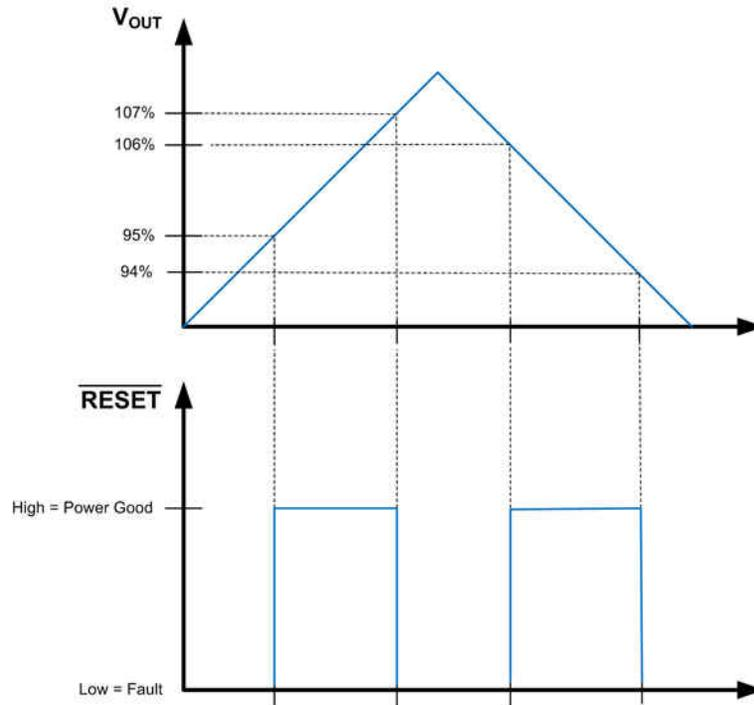
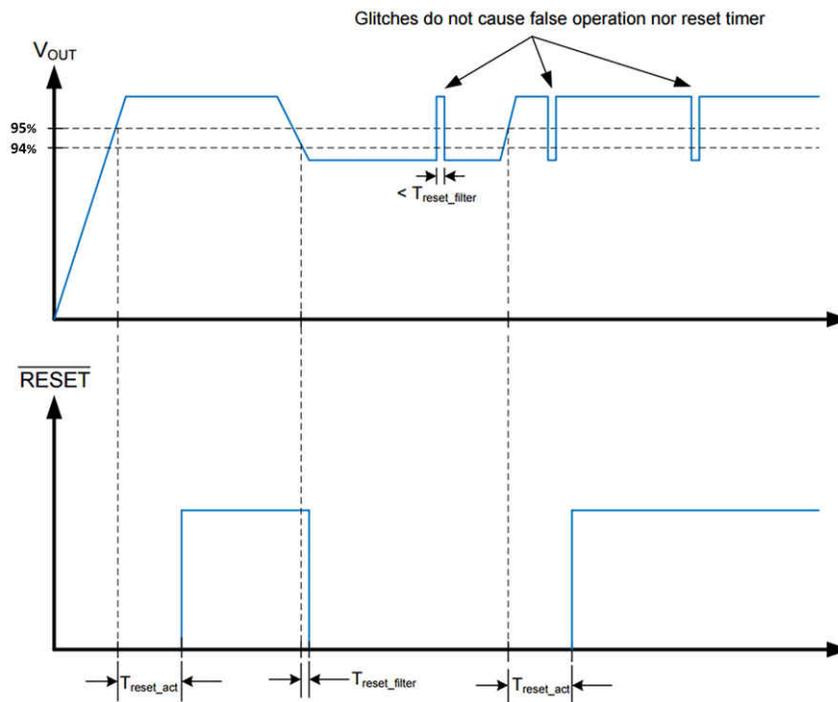
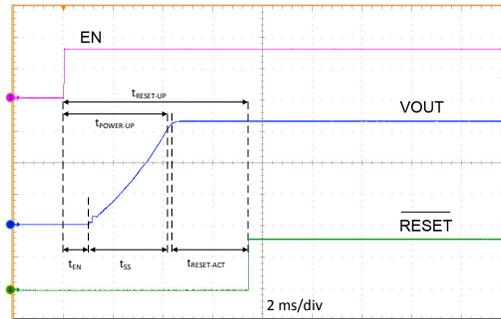

Figure 8-2. Static RESET Operation
Figure 8-3. RESET Timing Behavior
Figure 8-4. Typical Start-Up Waveform
- A delay has been added between the point at which the output voltage is within specified limits and the flag asserts Power Good. A glitch filter prevents false flag operation for short excursions in the output voltage, such as during line and load transients. See Figure 8-3 and Figure 8-4 for more detail.
Because the $\overline{\text{RESET}}$ comparator and the regulation loop share the same reference, the thresholds track with the output voltage. When EN is pulled low, the $\overline{\text{RESET}}$ flag output is forced low. When the device is disabled, $\overline{\text{RESET}}$ remains valid as long as the input voltage is ≥ 1.5 V. $\overline{\text{RESET}}$ operation can best be understood by reference to Figure 8-2 and Figure 8-3. Output voltage excursions lasting less than $T_{\text{RESET-filter}}$ do not trip $\overline{\text{RESET}}$. Once the output voltage is within the prescribed limits, a delay of $T_{\text{RESET-act}}$ is imposed before $\overline{\text{RESET}}$ goes high. This enables tighter tolerance than is possible with an external supervisor device while also expanding the system allowance for transient response without the need for extremely accurate internal circuitry.
A typical start-up waveform is shown in Figure 8-4 along with timing definitions. This waveform indicates the sequence and timing between the enable input, output voltage, and $\overline{\text{RESET}}$. From the figure, the user can define several different start-up times depending on what is relevant to the application. Table 8-1 lists the timing definitions and typical values.